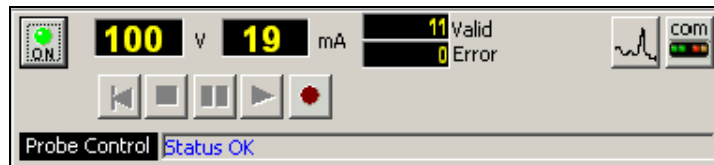

Fig.1.6b Acquisition mode
**Acquisition mode** (Fig.1.6b): once the eMind Logger is correctly connected and switched on, the probe power button  becomes visible. After checking that system is configured correctly for the sonde by means of the  button (logging cable type, and sonde power voltage), the sonde can be powered up to begin the recording of a log; the probe communication status being indicated by the "Probe Control" display. Alert messages will be displayed here in case of problems, such as the **OVERRUN** message appearing when excessive logging speed causes data loss. The start of data transmission is signalled by a "beep" from the system.